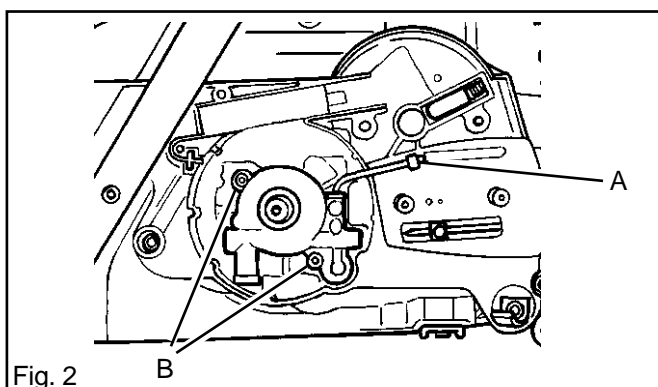

Fig. 2
4. Use a screwdriver and lift the oil pipe forward at A. Lift up the pipe and pull it out of the oil pump. See fig. 2.
5. Remove the two bolts (B) and lift the oil pump from the crankcase. See fig. 2.